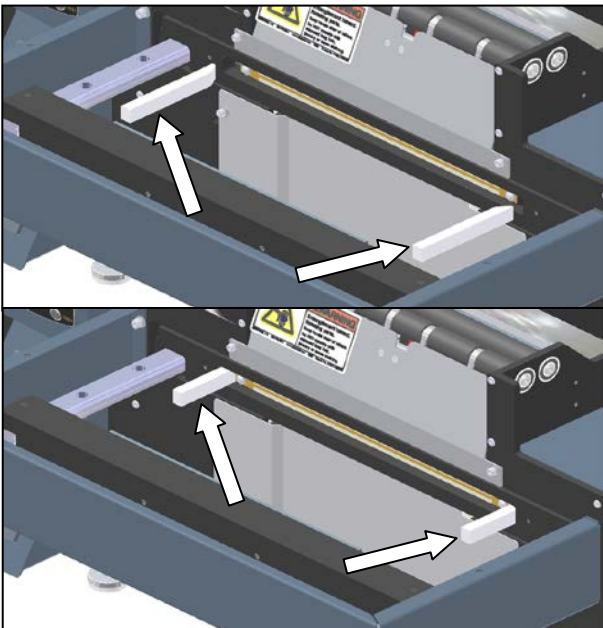

Figure 3-330. Inserting the Seal Wire Changing Tools
3. Manually open the pressure jaw to its completely open position. Insert the seal wire changing tools (shipped with the accessories for your Sharp SX™ in the accompanying box) into the stripper plate as shown in Figure 3-330.